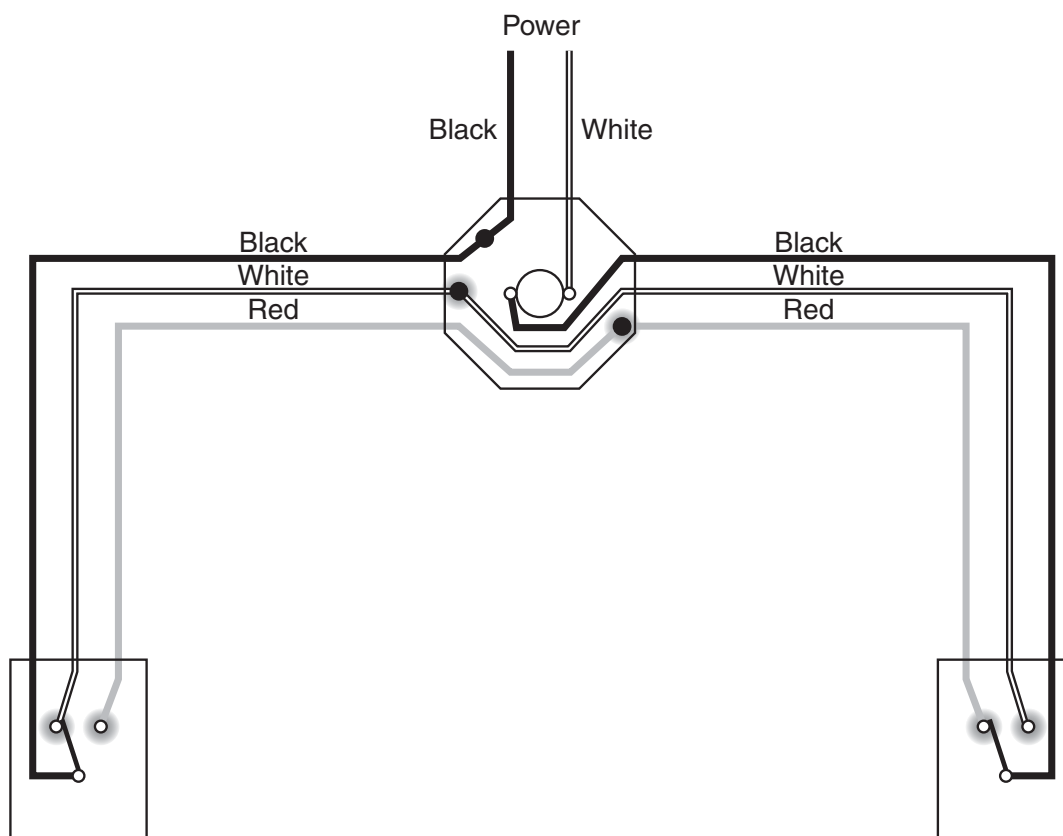

Figure 8-17 The travelers connect the two switches.
4. *Connect the travelers.* The red and white wires of the three-conductor cables are used as travelers (Figure 8-17). The *NEC*[®] requires that the white conductor be reidentified by marking it with colored tape or paint because it is a switch leg. The white switch legs should be marked in the light box and each of the switch boxes.